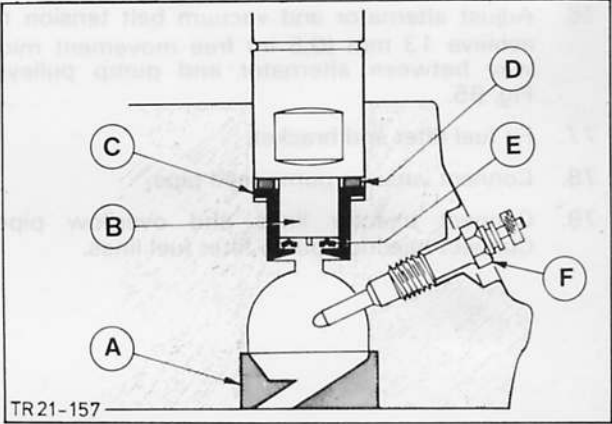

Fig. 92. Combustion chamber – cut-away view
70. Insert heat shields with new gaskets. Position new heat balancing plates, with convex side upwards, and new nozzle holder sealing rings, Fig. 92, and uniformly torque injector nozzles as specified in Technical Data.